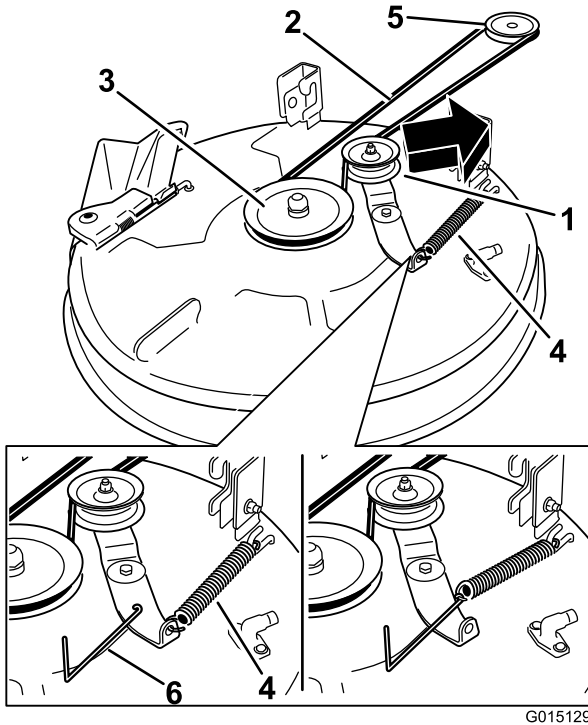

Figure 56
- Using a spring removal tool, (Toro part no. 92-5771), remove the idler spring from the deck hook to remove tension on the idler pulley and roll the belt off of the pulleys (Figure 56).
5. Route the new belt around the engine pulley and mower pulleys (Figure 56).
6. Using a spring removal tool, (Toro part no. 92-5771), install the idler spring over the deck hook and placing tension on the idler pulley and mower belt (Figure 56).